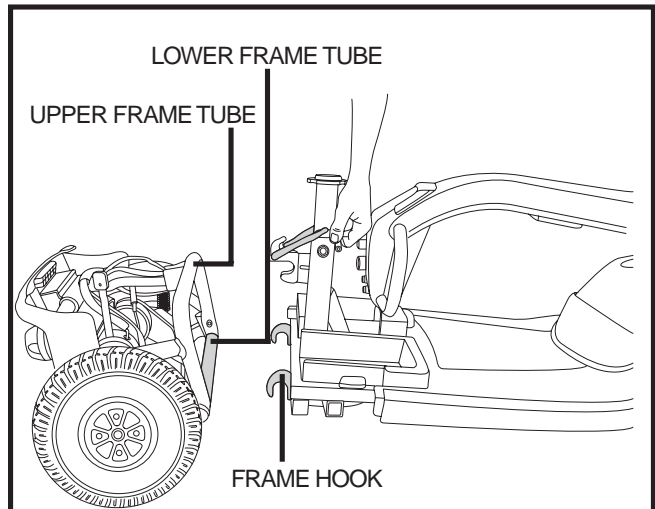

Figure 22. Frame Separation
NOTE: Stabilise the rear section with your free hand by holding onto the upper frame tube. See figure 22.
3. Slowly separate the two sections. See figure 22.
1. Position the front and rear sections of your scooter as shown in figure 22.
2. Use the frame release lever to lift the front section as you align the frame hooks of the front section with the lower frame tube of the rear section. See figure 22.